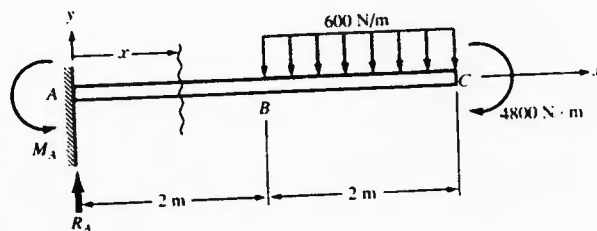

Figure 8
- b. The cantilever beam AC in Figure 8 is loaded by the uniform load of 600 N/m over the length BC together with the couple of magnitude 4800 N.m at the tip C. Determine the shearing force and bending moment diagrams. [5]